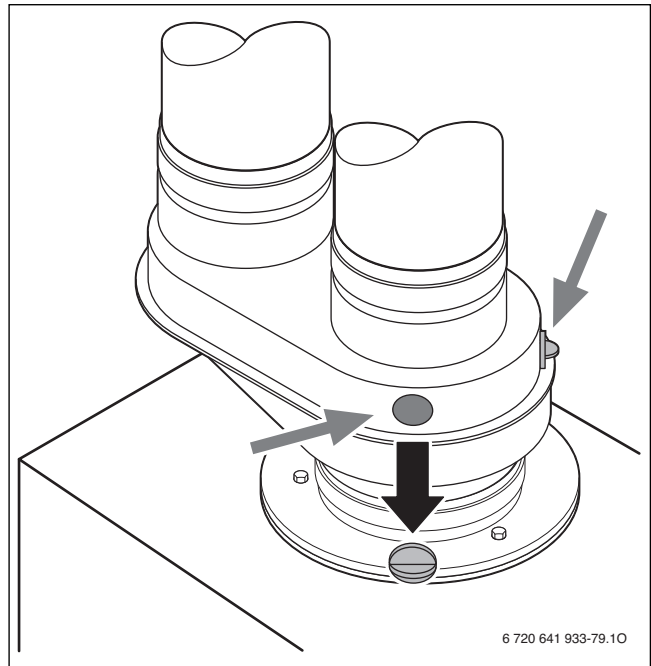

Fig. 76 Open one of the flue gas test ports
- Open one of the flue gas test ports (→ Fig. 76).